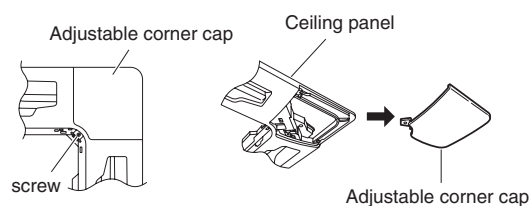

Fig. 3-2
- (1) Remove the intake grille.
- (2) Remove the screws that fasten the adjustable corner cap, then slide the adjustable corner cap to the side to remove it. (Fig. 3-2)